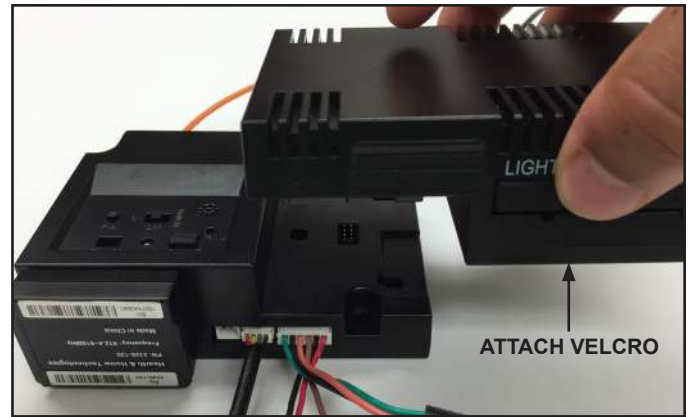

Figure 3. Connecting IFT-ACM and IFT-ECM
- Attach velcro included with the IFT-ACM to the bottom of the ACM. See Figure 3.
- Connect the IFT-ACM to the IFT-ECM by aligning the pins and tabs and pushing the IFT-ACM into the IFT-ECM until both tabs latch in place. Ensure the IFT-ECM and IFT-ACM are aligned with each other and fastened securely. See Figure 3.